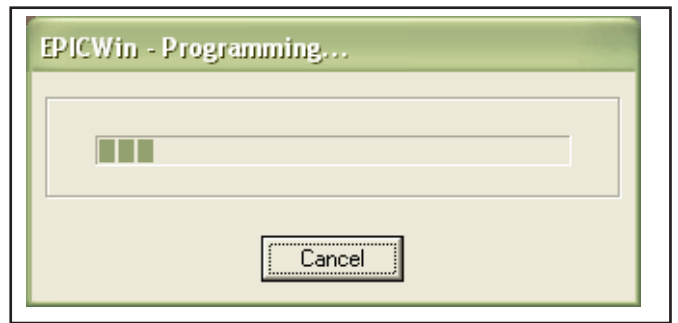

Figure 8.
6. After connected to the new module press  program button to start uploading the program to the new interface module. Another message box will appear showing the downloading progress. See figure 8.